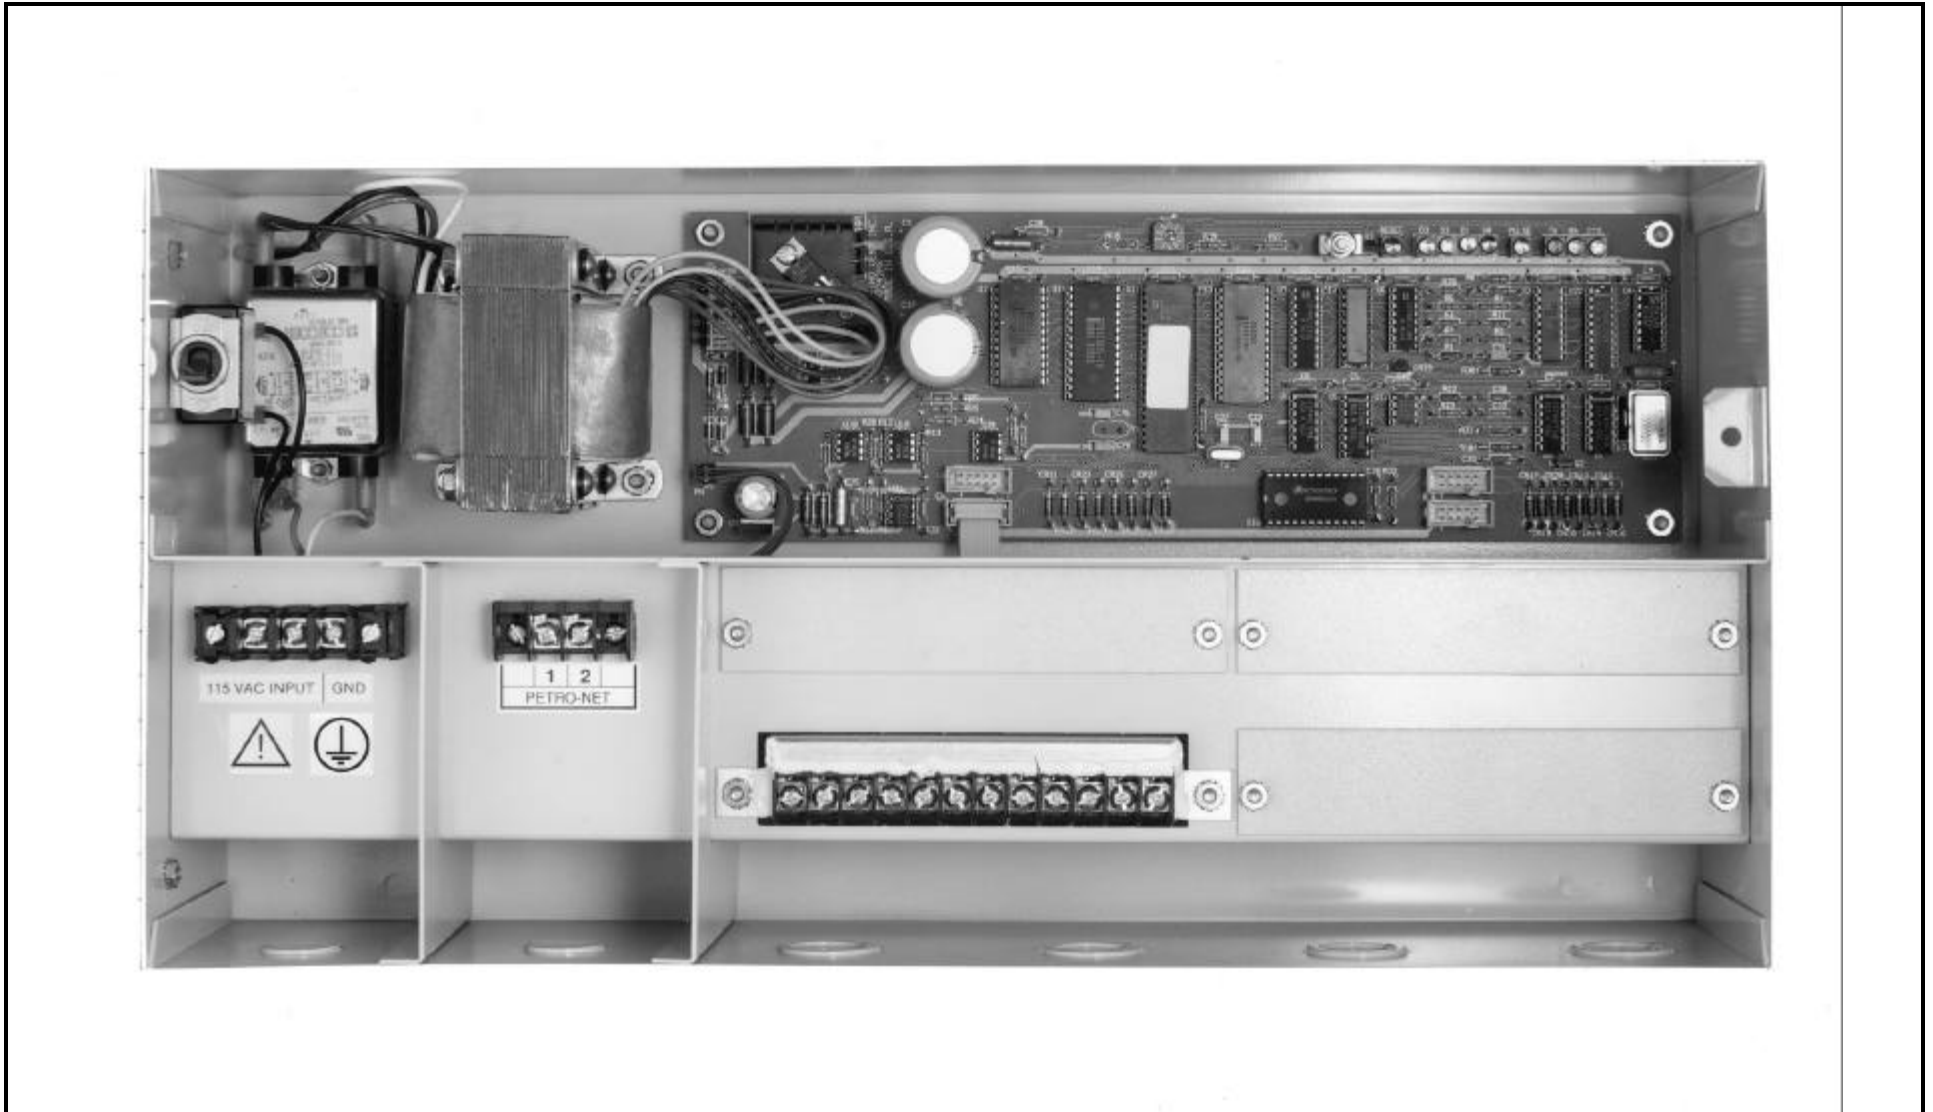

Figure 2 - Smart Module Interior
The *Smart Module* (Figure 2 next page) gathers probe and sensor data. Up to four devices can be connected to the intrinsically safe (IS) barrier in the Smart Module. The barrier isolates the module from hazardous areas where probes and sensors are installed. Up to four barriers can be in each module, a total of 16 devices per module.